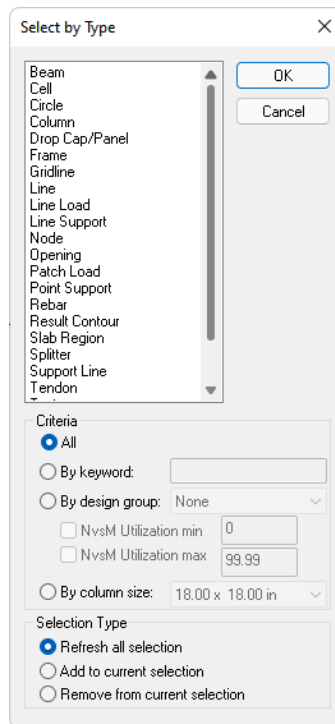

FIGURE 10-33
- Click on the **Select by Type**  icon located in the *Bottom Quick Access* toolbar. This will open the *Select by Type* dialog window as shown in **FIGURE 10-33**.